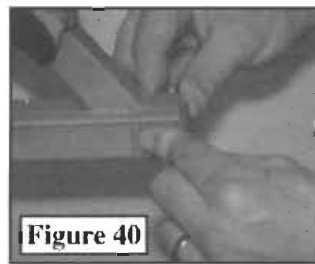
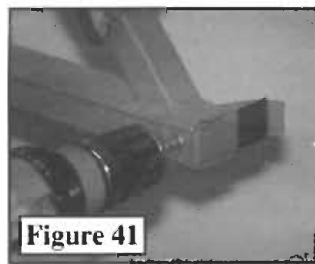
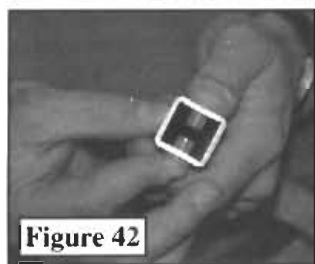

Figure 40
Figure 41
Figure 42
Climbing Bar Attachment (Cobra X4 Only) First determine that all hardware is available. Included should be two (2) climbing bar stops, two (2) 1-3/4" bolts, two (2) 1/4-20 locknuts, four (4) long shank shoulder bushings, two (2) short shank shoulder bushings, two (2) spacer bushings, two (2) #10 self-drilling screws, and two (2) small adhesive-backed pads (see **Cobra Parts figure**). Place the two climbing bar stops into the ends of the seat climber as shown in **Figure 40**. A hammer can be used to lightly tap them into position. Use the two #10 sheet metal screws to secure them as shown in **Figure 41**. Now push two of the long shank shoulder bushings into the ends of the climbing bar (**Figure 42**). Repeat for the other side. Next, position the climbing bar so that the padded portion of the bar is down and in front of the seat pad (**Figure 43**). The two spacer bushings should be positioned between the climbing bar flange (welded to the treestand) and the ends of the climbing bar (**Figure 44**). Push the remaining two short shank shoulder bushings into the climbing bar flange from the inside (**Figure 45**). Last, push the 1 3/4" bolt through from the inside (through the short shank bushing, the spacer bushing, the long shank bushing and the outer long shank bushing (**Figure 46**). Screw the locknut onto the bolt and tighten. Repeat for the other side. Last, remove the backing and place the adhesive-backed felt pads on the point where the climbing bar contacts the climbing bar stop (**Figure 47**).